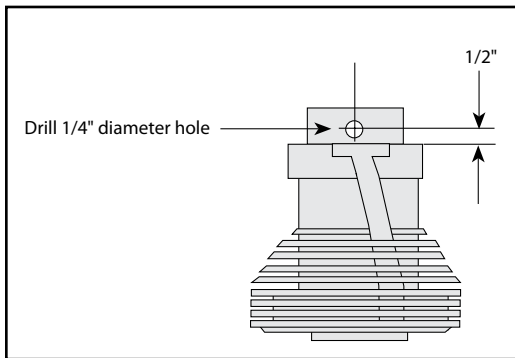

Figure 4
- Directly in line with return hole in bottom of cylinder flange, drill 1/4" diameter hole centered 1/2" away from base gasket surface through cylinder sleeve. **See Figure 4, below left.**